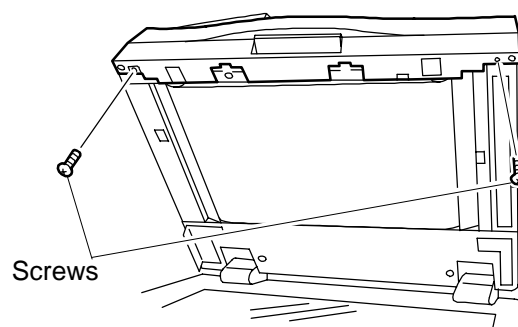

Fig. 20
- 20) Remove the 2 binding head screws at the bottom of the ADF. (Fig. 20)